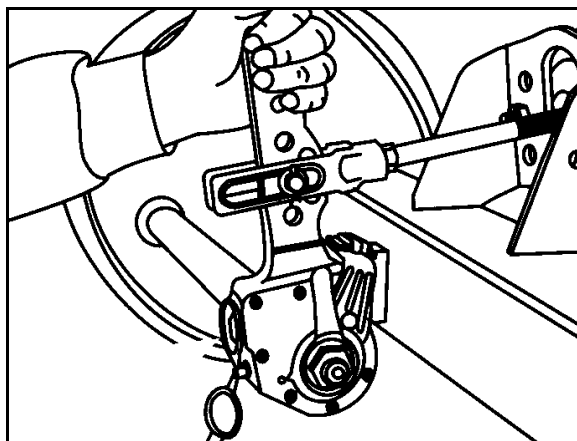

Fig. 92
Move the linkage adjuster by hand in the pressure direction (Fig. 92). If the free travel of the long-stroke diaphragm cylinder pressure rod is max. 35 mm, the wheel brake must be readjusted.
2. Slacken the adjusting screw (arrow) with a ring spanner (Fig. 92) approx. $\frac{3}{4}$ of a turn anti-clockwise. There must be free travel of at least 50 mm for a lever length of 150 mm.